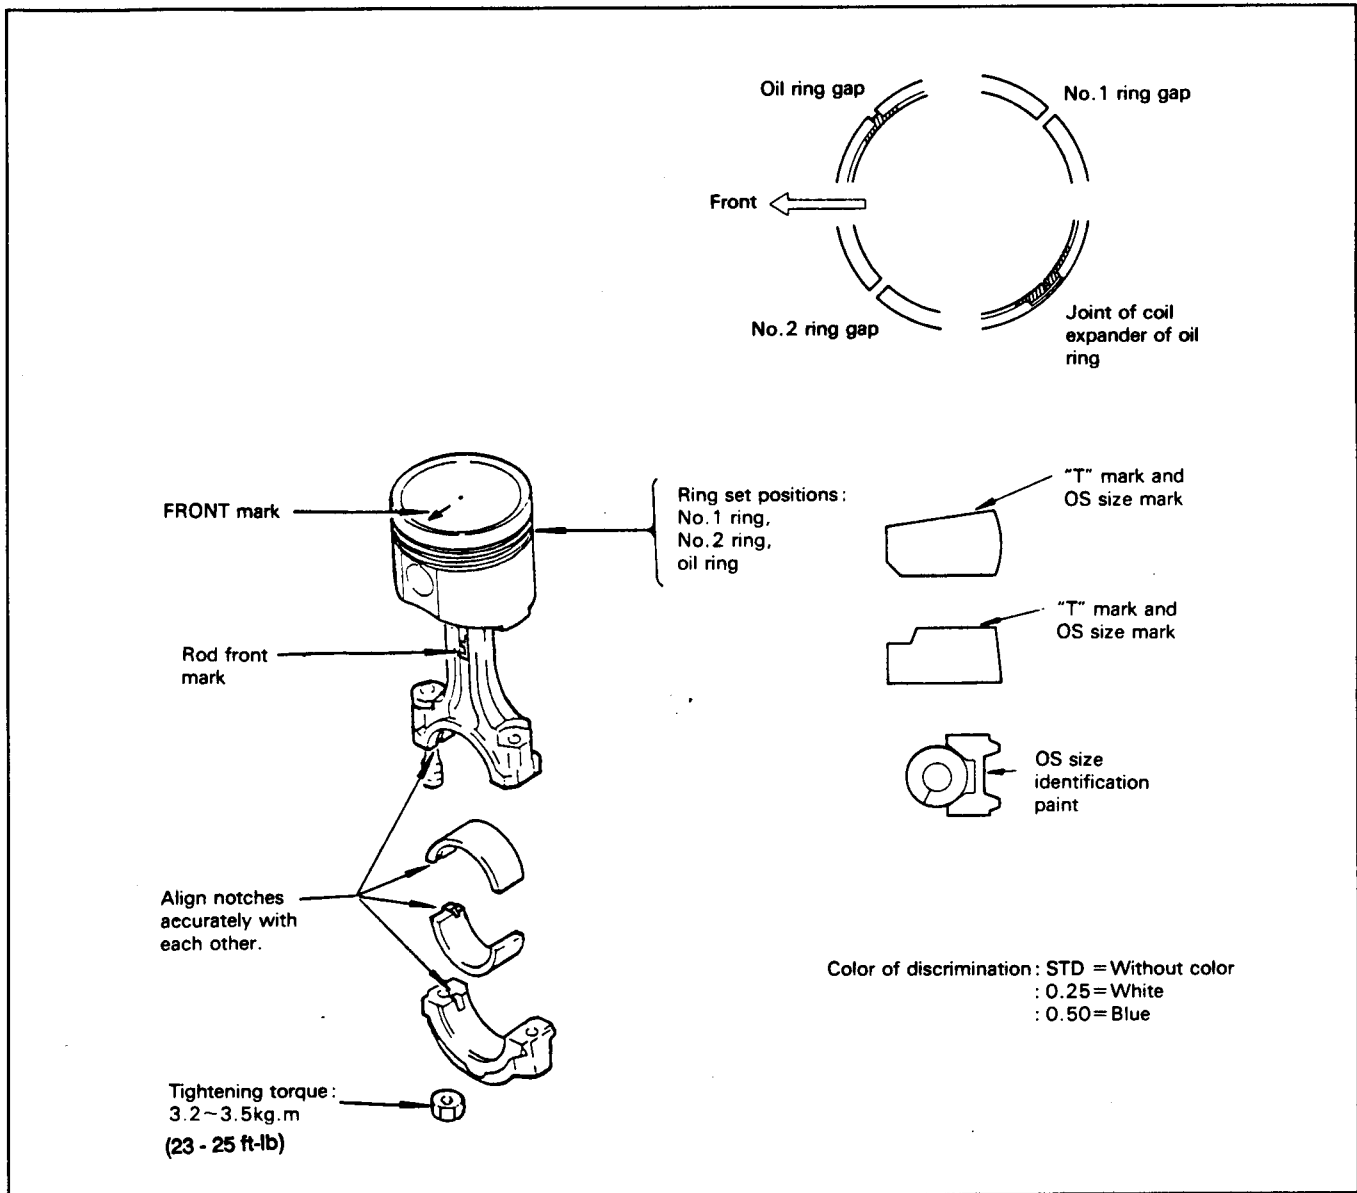

Figure 90
15. Install the piston rings. Each piston ring has different shape. Make sure they are installed in the proper position and with the ring gaps in the directions as illustrated (Fig. 90).